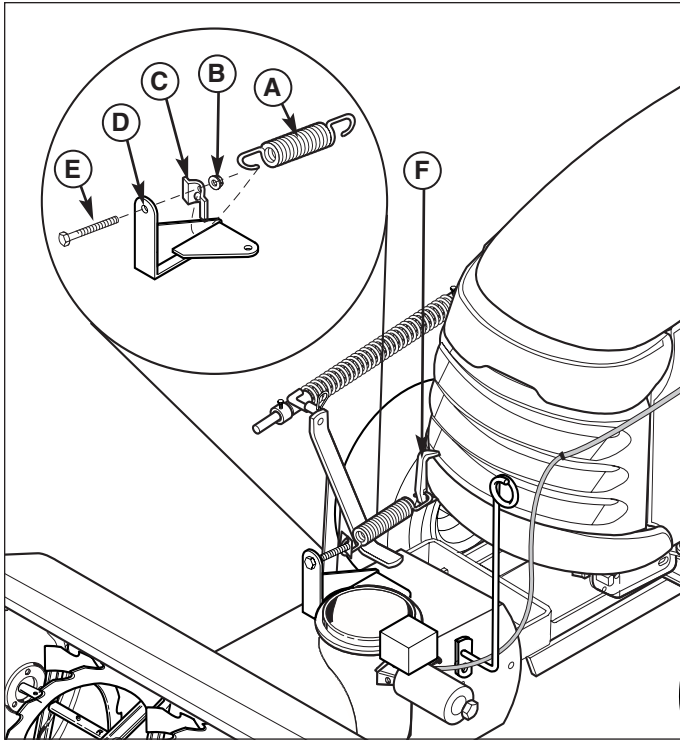

Figure 27. Install Lift Assist
4. Install the spring anchor (F, Figure 27) on the bumper.
5. Install the lift assist spring (A), spring retainer (C), nut (B), and capscrew (E) through the assist bracket (D). Tighten until the desired amount of lift assist is achieved.